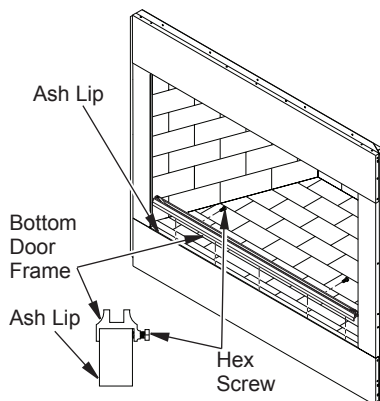

Figure 30 - Installing Bottom Door Frame
3. Place bottom door frame on top of ash lip at front of fireplace (see Figure 30).
4. Secure bottom door frame to brick with two hex screws provided as shown in Figure 30 using a 7/16" open end or adjustable wrench.